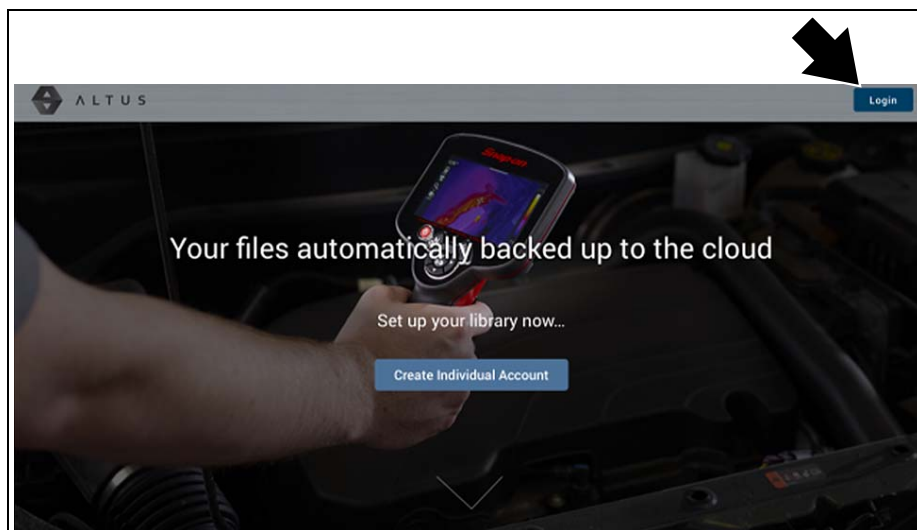

Figure 13-3
2. Select the **Login** icon (Figure 13-3).